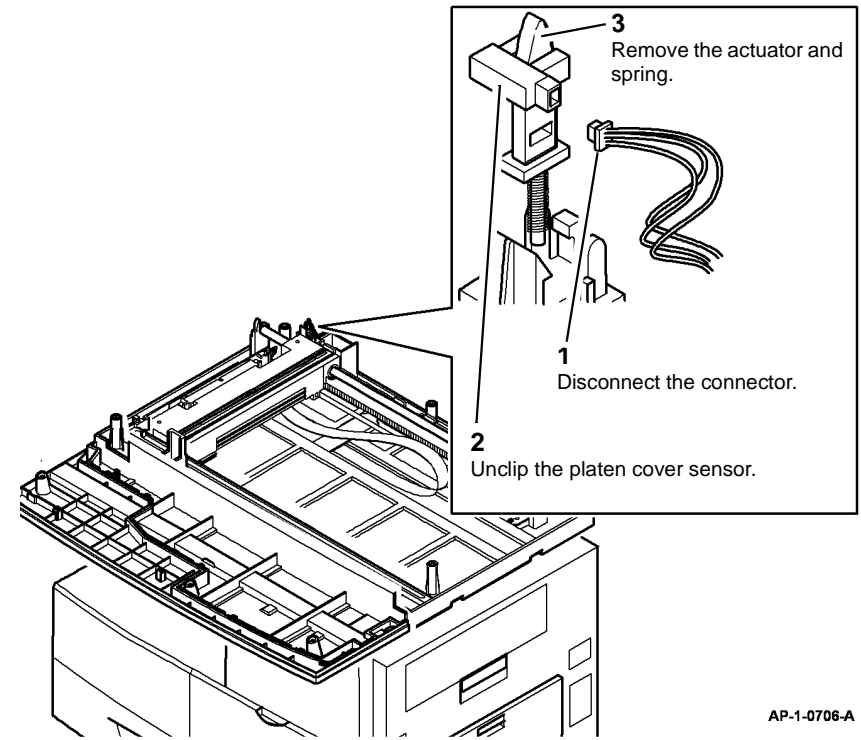

Figure 3 Removing the Platen Cover Sensor and Actuator
6. Remove the platen cover sensor and actuator (Figure 3).